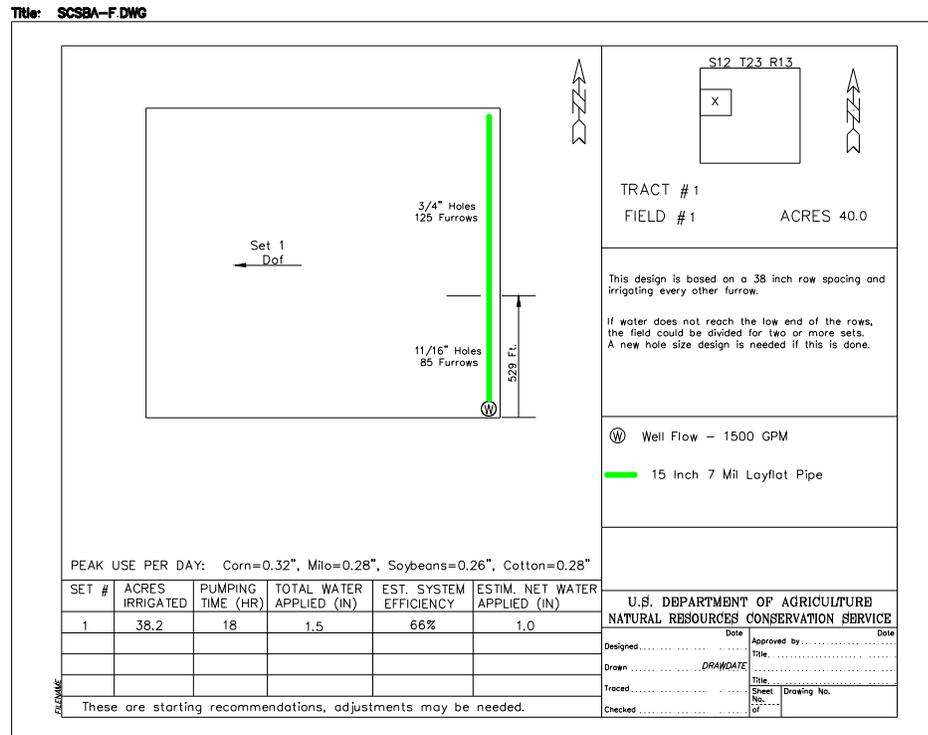

Figure 1.7 – Example 1 Plan View
**STEP 4:** The PHAUCET design is more clearly understood when presented as a plan view of the field that describes all system details (fig. 1.7). This plan view can be created in AutoCAD or other drawing software. The number and location of each hole size can be calculated from the Summary or Complete Reports or simply print out the Hole Size Summary.